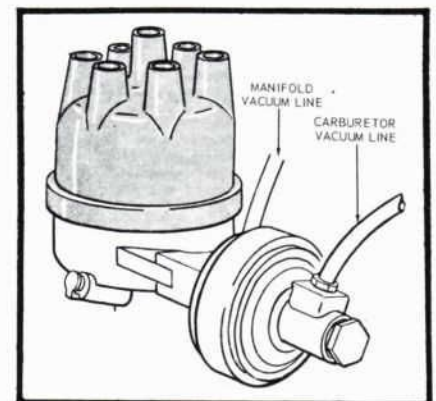

Figure 3—Connect Both Vacuum Lines
2. Remove plug from manifold vacuum line and then connect manifold vacuum line to distributor diaphragm assembly (See Fig. 3). The spark timing should then retard.